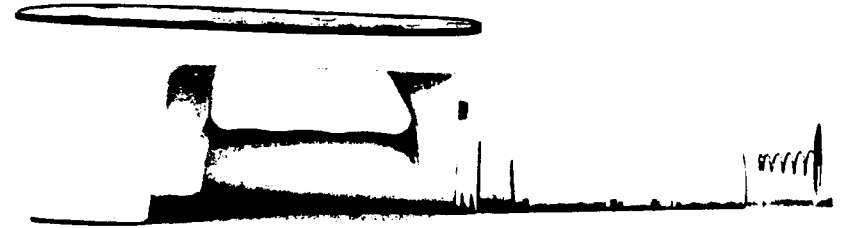

Figure 2. Battery Compartment
**WARNING: MAKE SURE THE BATTERY IS INSERTED IN THE PROPER DIRECTION. (Figure 2.) INCORRECT POSITION CAN DESTROY THE BATTERY AND READER. USE ONLY AVID APPROVED NICAD RECHARGEABLE BATTERY. DISPOSE OF BATTERY WITH EXTREME CARE AND IN ACCORDANCE WITH LOCAL REGULATIONS. BATTERY MAY EXPLODE IF DISPOSED OF IN FIRE OR WATER.**